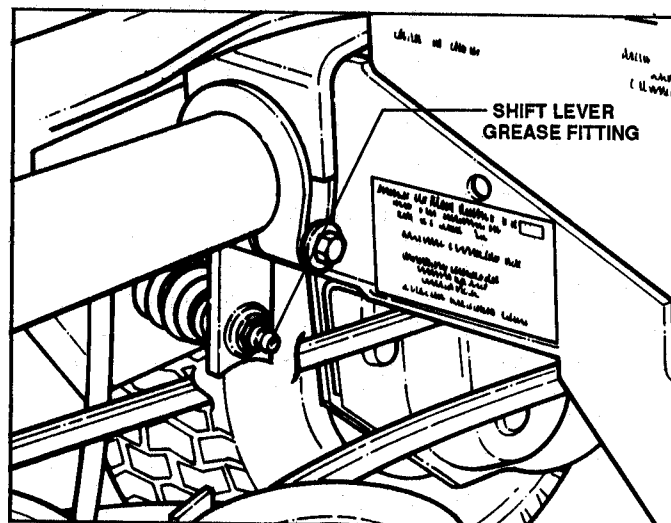

FIGURE 1.5
- E. SHIFT LEVER: Lubricate through fitting located inside case on end of mechanism with 2 shots of grease from pressure gun. See Figure 1.5.